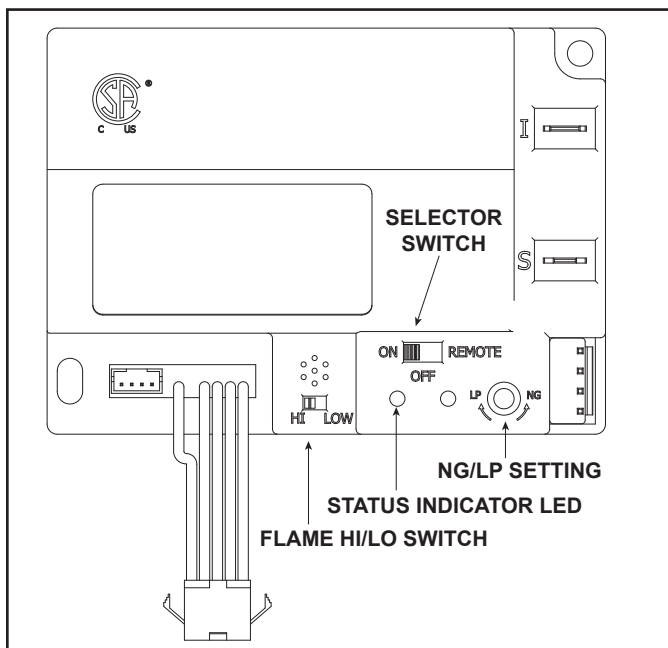

Figure 2.2 Control Module
1. The control module has an ON/OFF/REMOTE selector switch that must be set. See Figure 2.2.